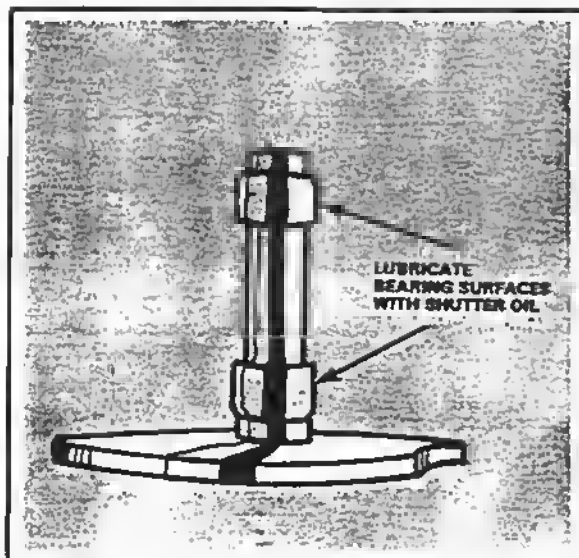

Figure 207 Release cam
**LUBRICATION:** The release cam, you'll recall, must be clean and lubricated. Lubricate the two bearing surfaces of the release cam, Fig. 207, with shutter oil. Use the shutter oil sparingly — you only want lubrication on the bearing surfaces. Also, make sure that you've thoroughly cleaned the speed-selector assembly, especially the bearing hole which receives the release-cam shaft.